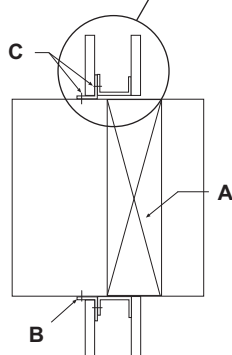

Figure 3: Under Drywall Installation
B. Vertical: Single-side mounting angles shall be a minimum of ¾" x 1½" tall x 20 gauge (19 x 38 x 1.0) steel. For metal stud partitions only, the single-side mounting angles may be attached to the metal stud prior to installation of the drywall. See Figure 3.